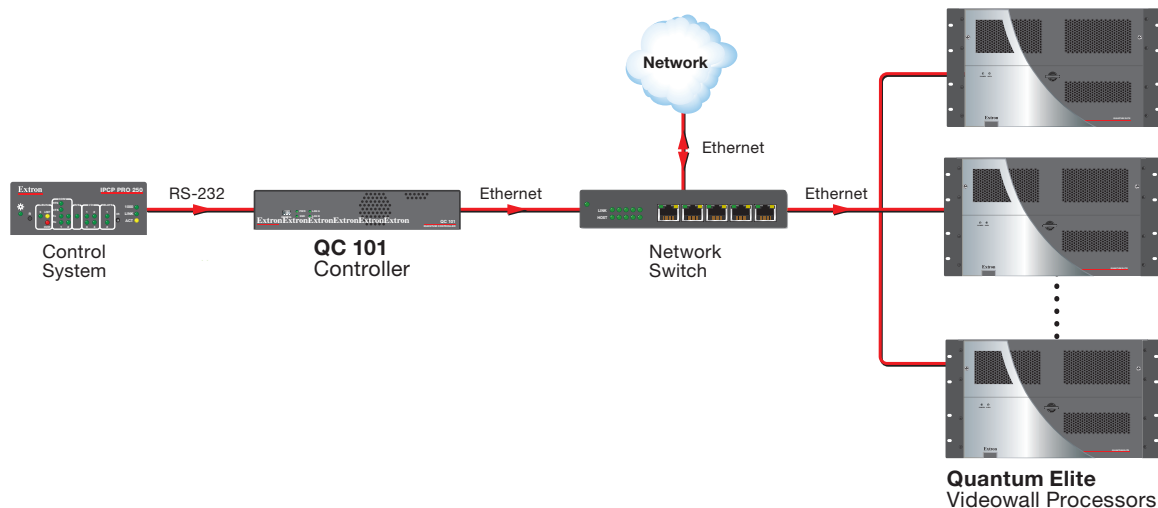

Figure 61. QC 101 Indirect (Network) Connection
- Indirectly from a QC 101 LAN port to the network to which the Quantum processors are connected (see figure 61). One to eight Quantum processors can be connected to the QC 101 simultaneously. The QC 101 and all connected processors must be on the **same subnet**.